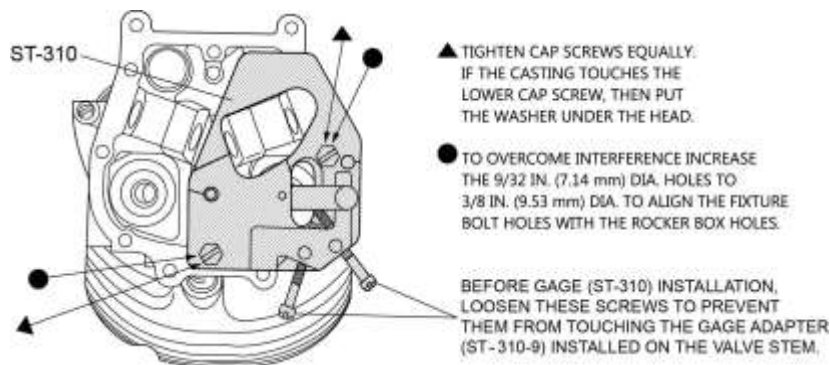

Figure 6
- (10) Loosen the screws identified in Figure 6 to prevent the screws from touching the Gage Adapter (ST-310-9) when installed on the valve stem.
- (11) Install the Gage (ST-310) on the valve on the cylinder head as shown in Figure 6.
- (12) Tighten the cap screws (identified in Figure 6) equally. If the casting touches the lower cap screw, put the washer under the head.
- (13) Measure stem movements by moving the valve stem along the valve guide wear line (inside diameter of the valve guide, parallel to the centerline of the valve rocker arm).
- (22) Move the piston to near its top end of travel.
- (23) Remove the Gage Adapter (ST-310-9) from the valve stem.
- (24) Loosen each cap screw in the Gage (ST-310) (Figure 6) in small equal increments to decrease pressure on the valve spring slowly and equally.
- (25) Remove the Gage (ST-310) from the cylinder.
- (26) Repeat this exhaust valve and guide inspection for all cylinders.
- (27) Record all of the results in the 1000-Hour Inspection Checklist for TEO-540-C1A engines in Chapter 05-20.